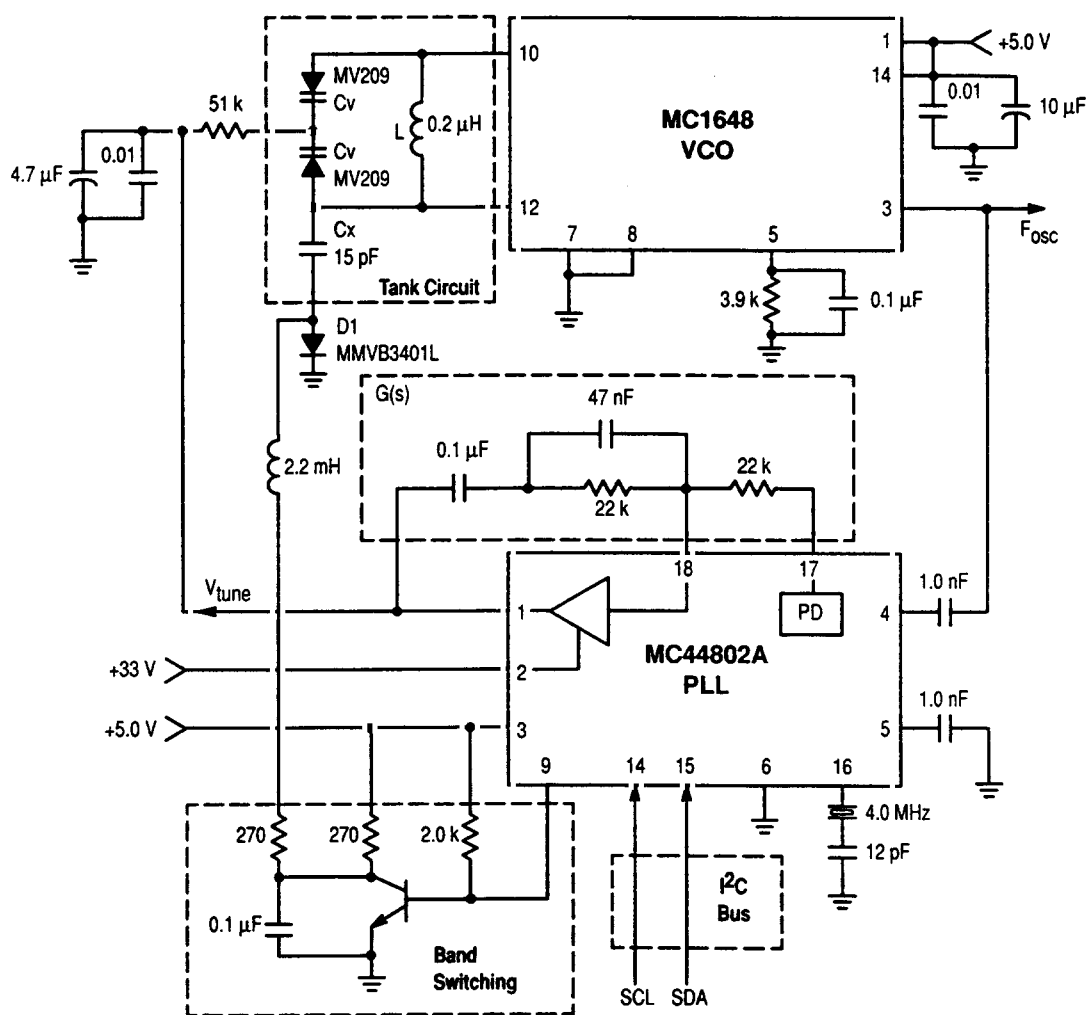

Figure 4. Sample PLL Tuning Circuit
The MC44802A works with an MC1648 voltage controlled oscillator (VCO) to form a Phase-Locked Loop (see Figure 4). The MC1648 requires an external parallel tank circuit consisting of an inductor (L) and capacitors (Cv and Cx). Varactor diodes (Cv) are used in this case to provide a voltage variable capacitance for the VCO. The MC1648 may be operated from a +5.0 or -5.2 Vdc supply, depending upon system requirements (+5.0 V in this case). Its maximum frequency is typically 225 MHz.